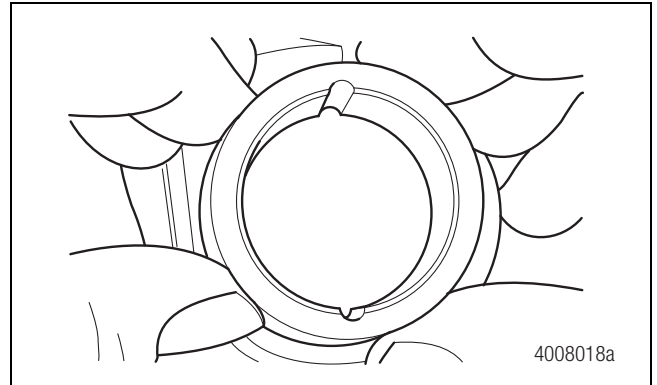

Figure 5.40
1. Align the new oval bronze bushing with the markings made on the housing previously. Figure 5.40.